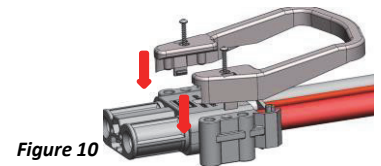

Figure 10
10. Install the optional handle on the top (polarity mark side) of the housing (Figure 10):